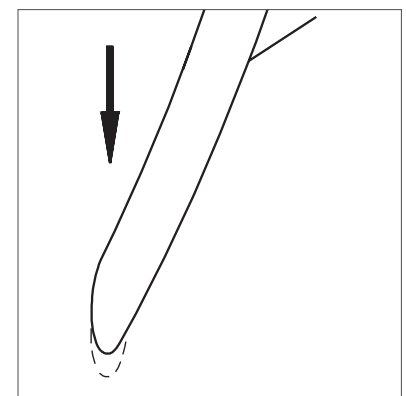

Fig 4.0
- Slide the rail down the wall until the screw heads are securely engaged in the slotted plates. see Fig 4.0 (over page)